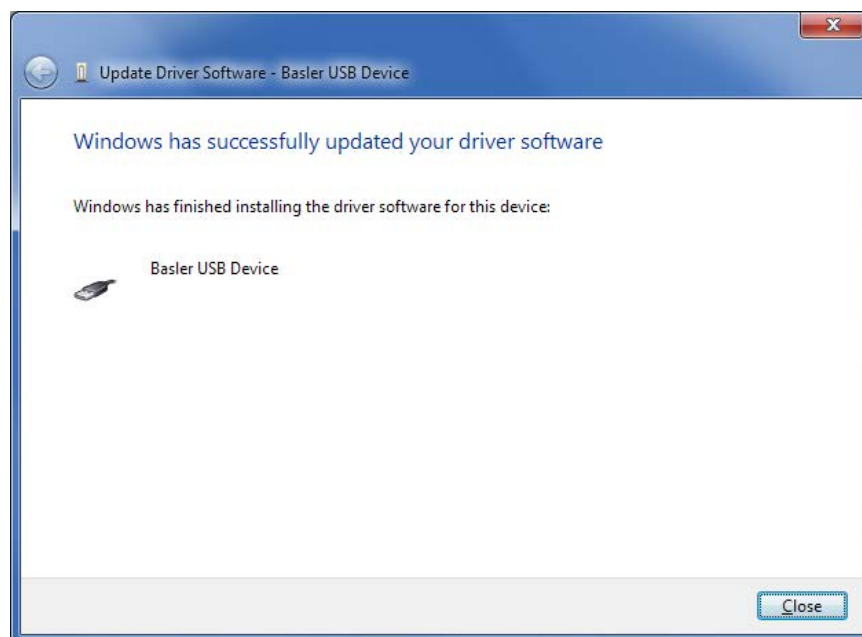

Figure 37. Driver Software Update Successful
Step 7. The window in Figure 37 appears if driver installation was successful.